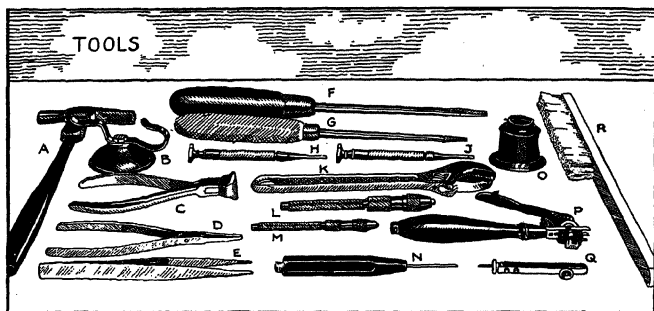

Fig. 30.—Tools used in instrument repair.
**Tools.**—Hand tools needed by every airplane instrument repair man are seen in Fig. 30. They are:
In addition to the tools shown in Fig. 30, a man who is to do much instrument repair work will have need of the following: